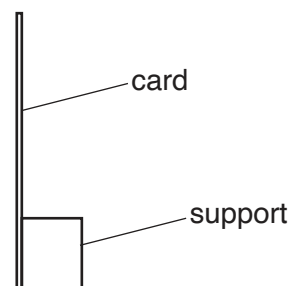

Fig. 3.2
- (iv) Plain white screen. A white sheet of stiff card approximately 150 mm $\times$ 150 mm, fixed to a wooden support, is suitable (see Fig. 3.2).